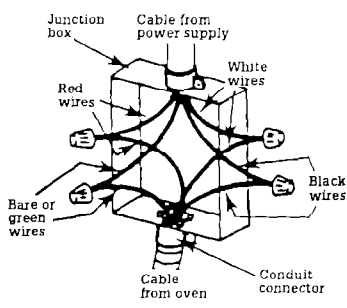

Figure 2
3. Connect the two black wires together; then the two red wires together. (See Figure 2.)